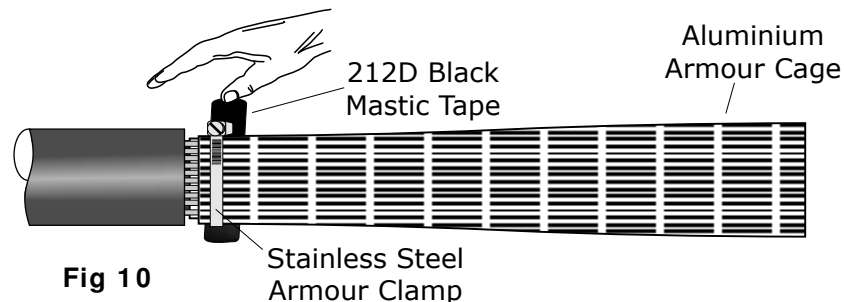

Fig 10
15. Apply the remaining pieces of 212D black mastic tape over the clamps and any sharp points as shown in Fig 10.